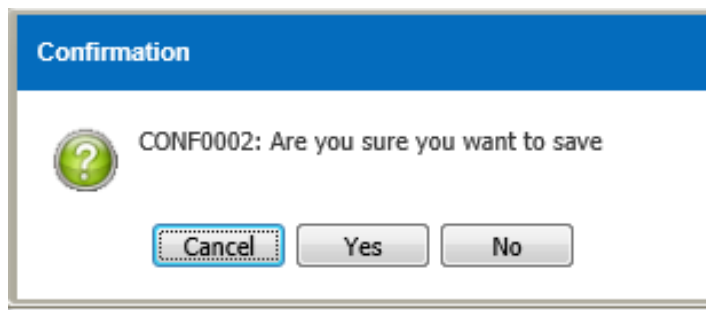

Figure 3.13.1-3 Confirmation Message
- Confirmation message as shown in Figure 3.13.1-3 will be displayed after user save the record
- Record will save when user click on the  button as shown in Figure 3.13.1-4